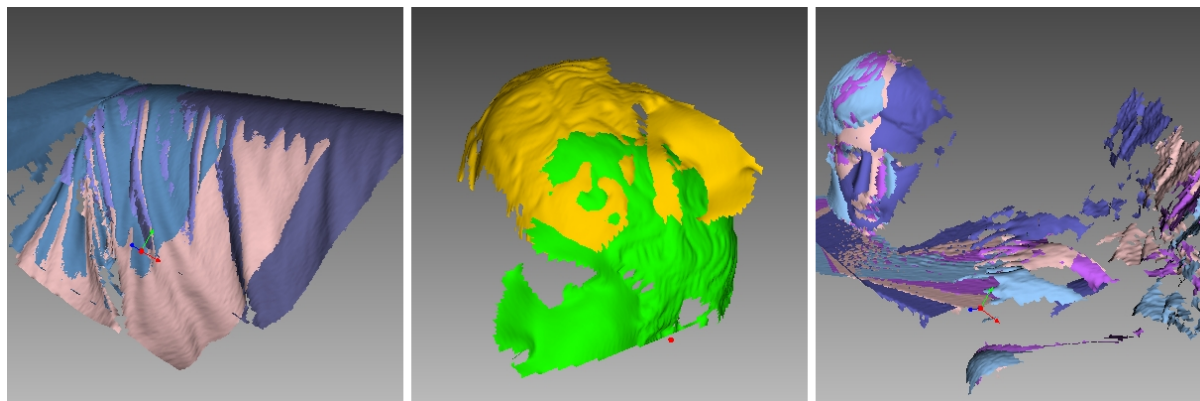

Figure 72: Possible scan errors.
- Misaligned frames (see Figure 72, left)—may occur because of small size, an insufficient number of geometrical features on the object or an insufficient number of polygons in a frame.
- Misaligned parts (see Figure 72, middle)—occurs when the real-time alignment algorithm incorrectly determines the position of the new frame relative to previous ones.
- Unwanted objects in the frame (see Figure 72, right).